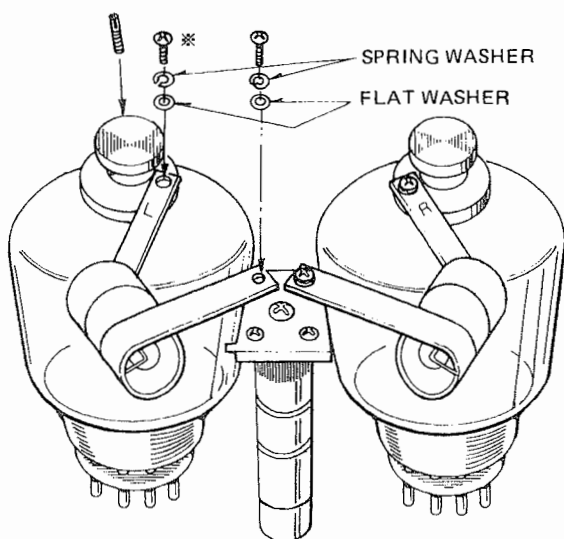

Figure 3 - Parasitic Suppressor Coil Mounting
7. (Refer to Fig. 3) Temporarily fix each parasitic suppressor coil on the plate cap with the letter "R" or "L" facing up. At this time, do not tighten the 4 mm screw and spring washer, but snug them so the coil may be adjusted.
11. Check to assure correct installation by reference to Fig. 3.